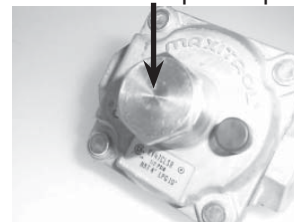

Fig. 6-2
1. Unscrew and remove the cap from the regulator, extracting the converter (Fig. 6-2).